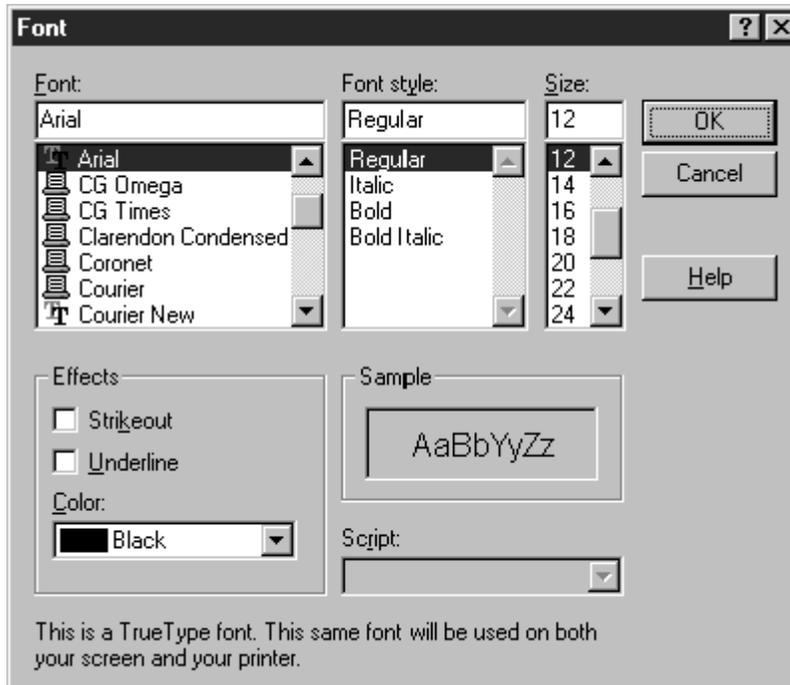

Figure 4.3 Font Dialog
2. Select Format ⇒ Font (or press F5). Select a font from the Font menu (see Figure 4.3).